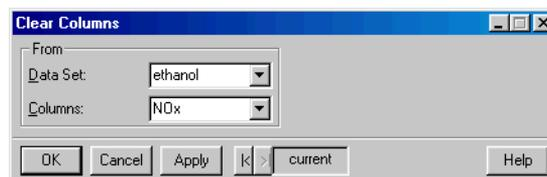

Figure 2.27: *The Clear Columns dialog.*
- From the main menu, choose **Data ► Clear ► Column**. The **Clear Columns** dialog opens, as shown in Figure 2.27.